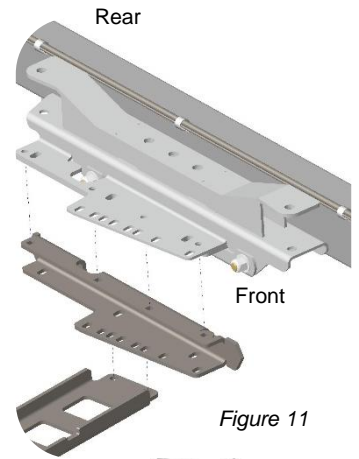

Figure 11
45. Install control arm mounting brackets to the frame (see figure 11 for front to rear orientation). Make sure mounting surface is flat and free of debris. Use the 1/2 x 1-1/2" flat head bolts from hardware kit 155. Use high strength threadlocker and tighten the bolts very tight.
- 47. The belly height in this kit is extremely adjustable. Anything from a flat belly to 3" drop can be achieved using a combination of spacer plates and spacer brackets (see figure 11, 12 and 13). Flat belly configuration will require a body lift or floor pan modification. Many late model transmissions will require a 2" drop bracket (see figure 11). *2" drop is still 1.5" higher than the stock belly height.* Hardware kit 120 contains the longer bolts needed for the drop spacers.